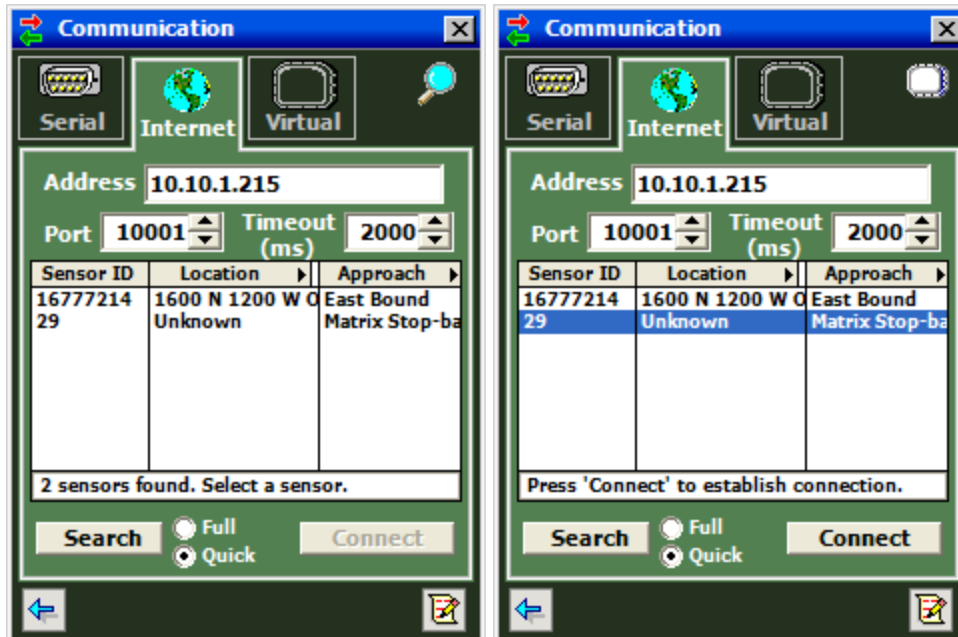
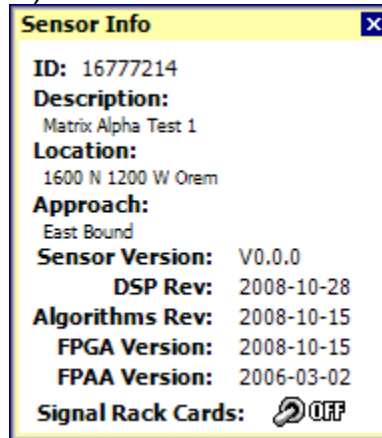

Figure 4.2 – Serial Connection Screen (New Screenshot needed)
Figure 4.3 – Sensor Info Popup
1. Click on **Communication** to access the Communication window (see Figure 4.2).
Once you have selected a sensor from the device list, you can click again on that row to bring up a Sensor Info popup (see Figure 4.3). To bring up the Sensor Info popup, you can also click on the sensor icon that appears in the upper right corner of the screen (see Figure 4.2).